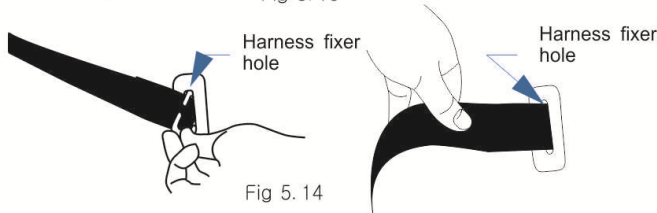

Fig 5.14
5.3.3 Install the harness fixer on the seats. (As fig 5.14)